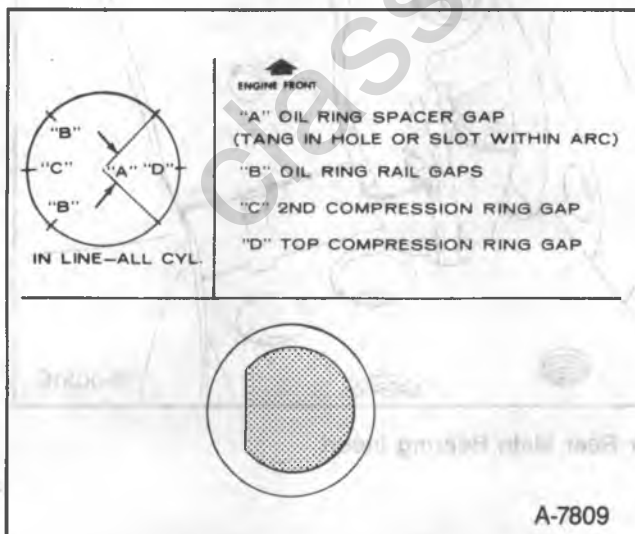

Figure 31 — Piston Ring Gap Location
- Locate the piston ring end gaps as shown in figure 31. Lubricate the piston and rings with engine oil.